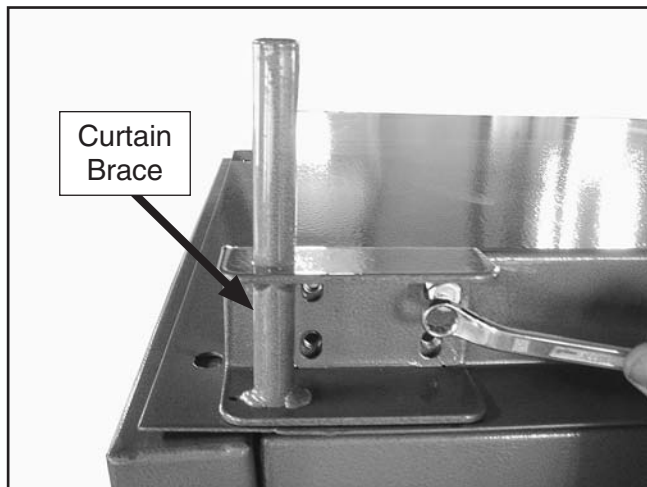

Figure 8. Installing curtain brace.
3. Fasten each curtain brace to the top cover with four $\frac{5}{16}$ "-18 x $\frac{3}{4}$ " hex bolts as shown in **Figure 8**.